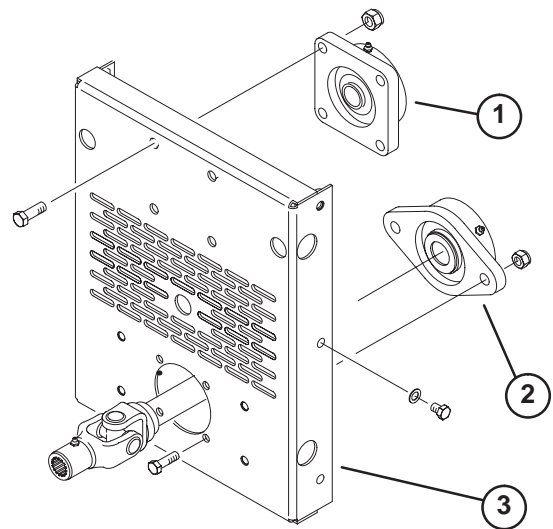

Figure 15
7. Remove (8) capscrews and locknuts securing fan shaft bearing and P.T.O. shaft bearing assemblies to inside of back cover assembly (Fig. 15). **Do not remove bearings from shafts.**
8. Remove (6) capscrews and flatwashers securing back cover assembly to blower (Fig. 15). Remove back cover assembly from blower.